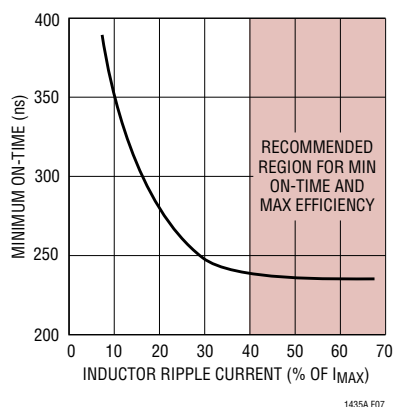

Figure 7. Minimum On-Time vs Inductor Ripple Current
The minimum on-time for the LTC1435A in a properly configured application is less than 300ns but increases at low ripple current amplitudes (see Figure 7). If an application is expected to operate close to the minimum on-time limit, an inductor value must be chosen that is low enough to provide sufficient ripple amplitude to meet the minimum on-time requirement. To determine the proper value, use the following procedure:
2. Use Figure 7 to obtain the peak-to-peak inductor ripple current as a percentage of  $I_{MAX}$  necessary to achieve the calculated  $t_{ON(MIN)}$ .
3. Ripple amplitude  $\Delta I_{L(MIN)} = (\% \text{ from Figure 7})(I_{MAX})$  where  $I_{MAX} = 0.1/R_{SENSE}$ .
The  $\Delta I_L$  was previously calculated to be 1.3A, which is 43% of  $I_{MAX}$ . From Figure 7, the LTC1435A minimum on-time at 43% ripple is about 235ns. Therefore, the minimum on-time is sufficient and no cycle skipping will occur.